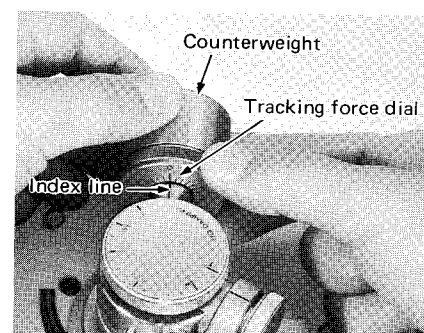

Fig. 19
9. Hold the counterweight at the adjusted position and turn the tracking force dial until the "0" mark is aligned with the index line on the tonearm weight shaft. (See Fig. 19)